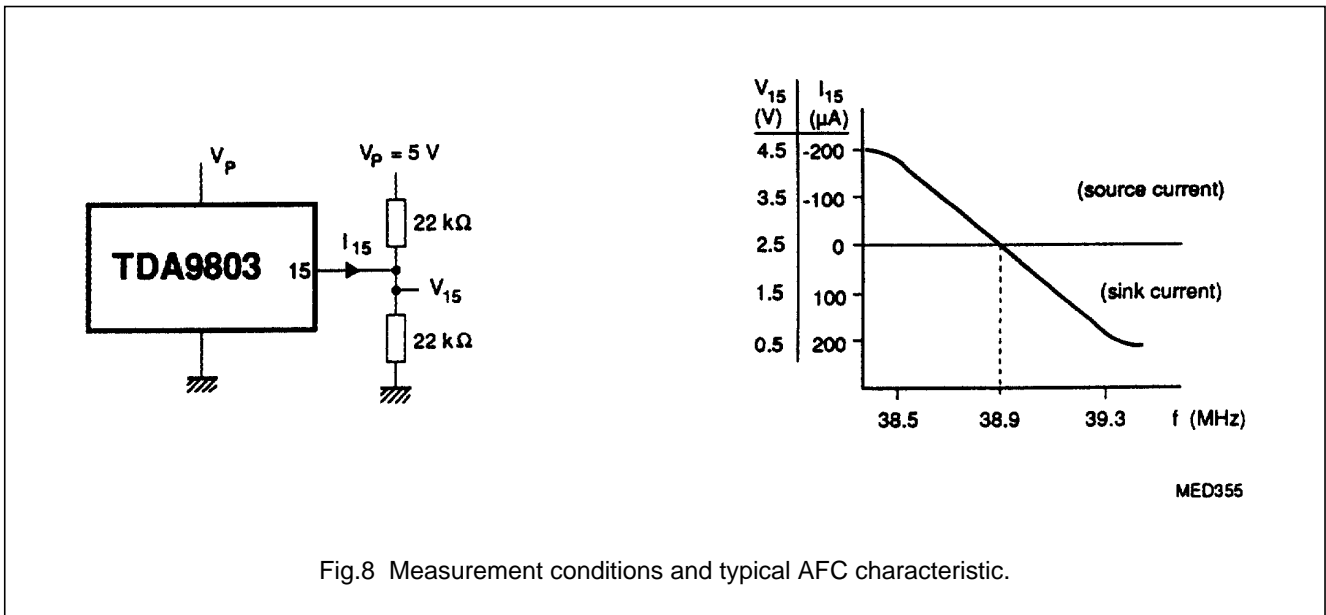

Fig.8 Measurement conditions and typical AFC characteristic.
15. To match the AFC output signal to different tuning systems a current source output is provided (Fig.8).